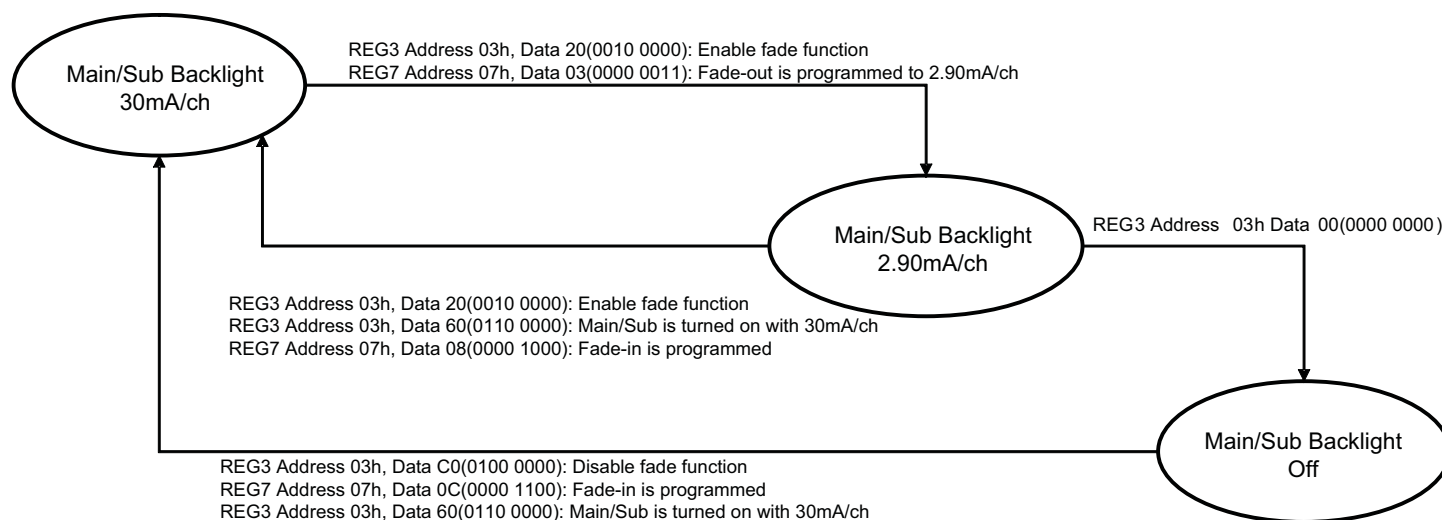

Figure 5: Example of AAT2862 Fade Out Programming.
**Main and Sub (as shown in Figure 5):**